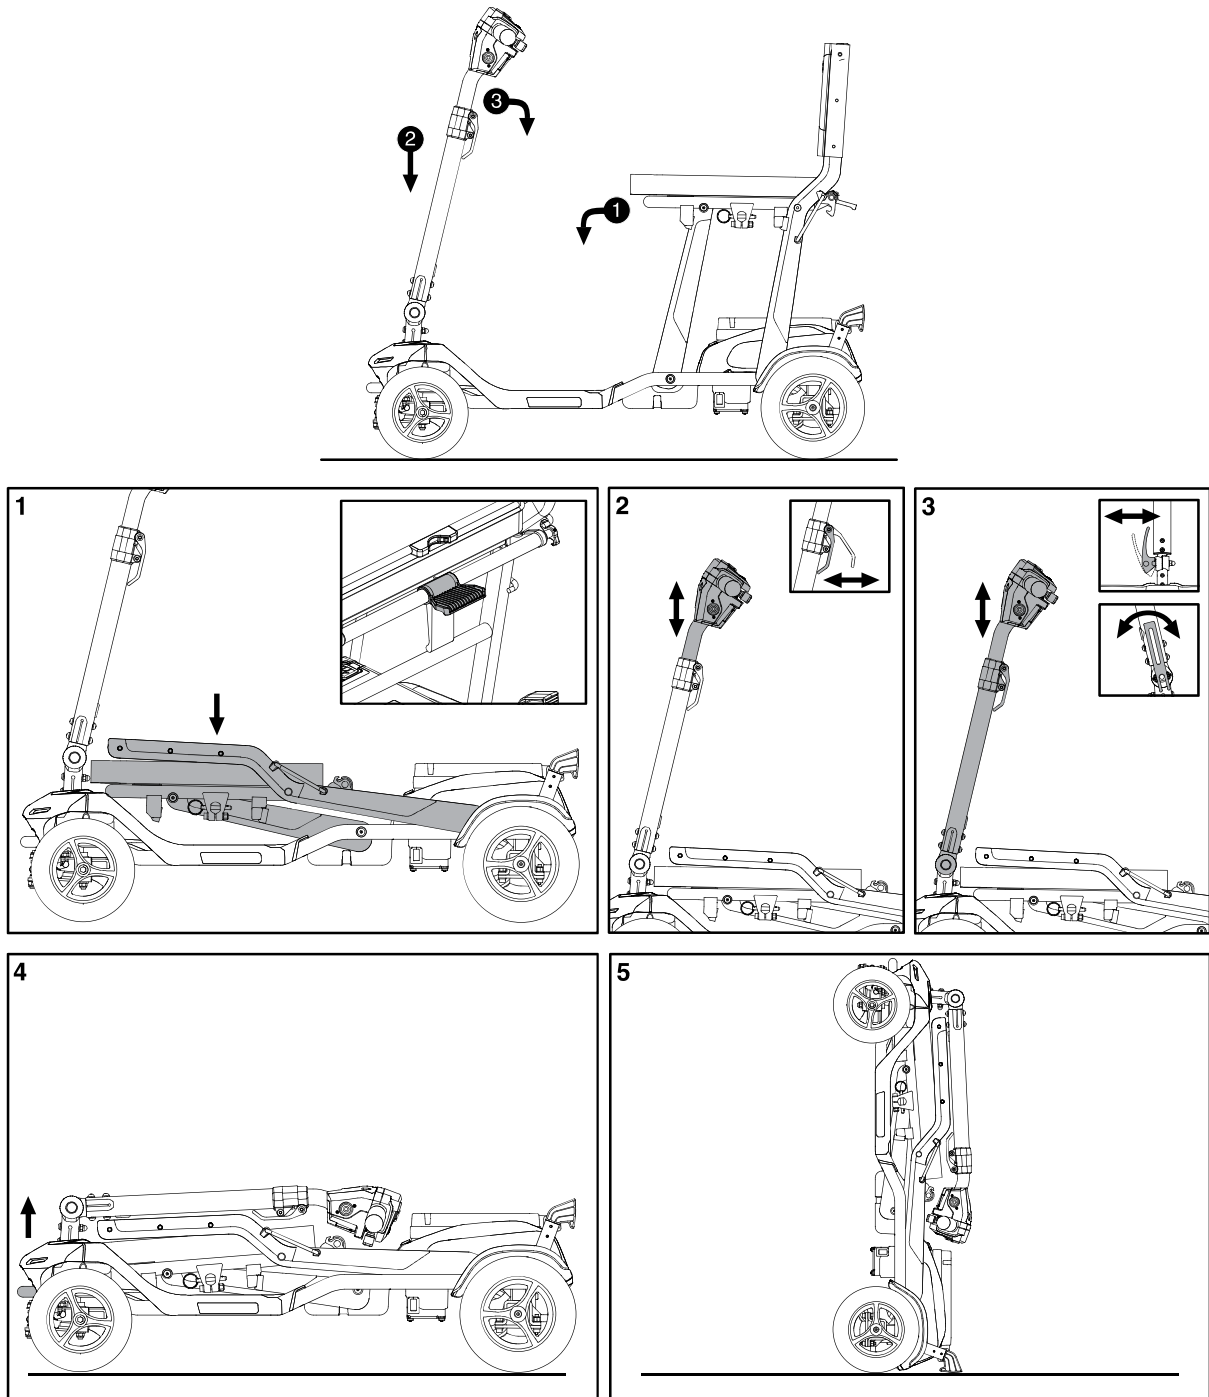

Figure 14 Folding for Transport
To fold your scooter (see figure 14):
To unfold your scooter (see figure 14):
1. Fold your scooter as shown in step 5 in **figure 14**. Refer to V. “Disassembly/Assembly and Folding/Unfolding” for more information.